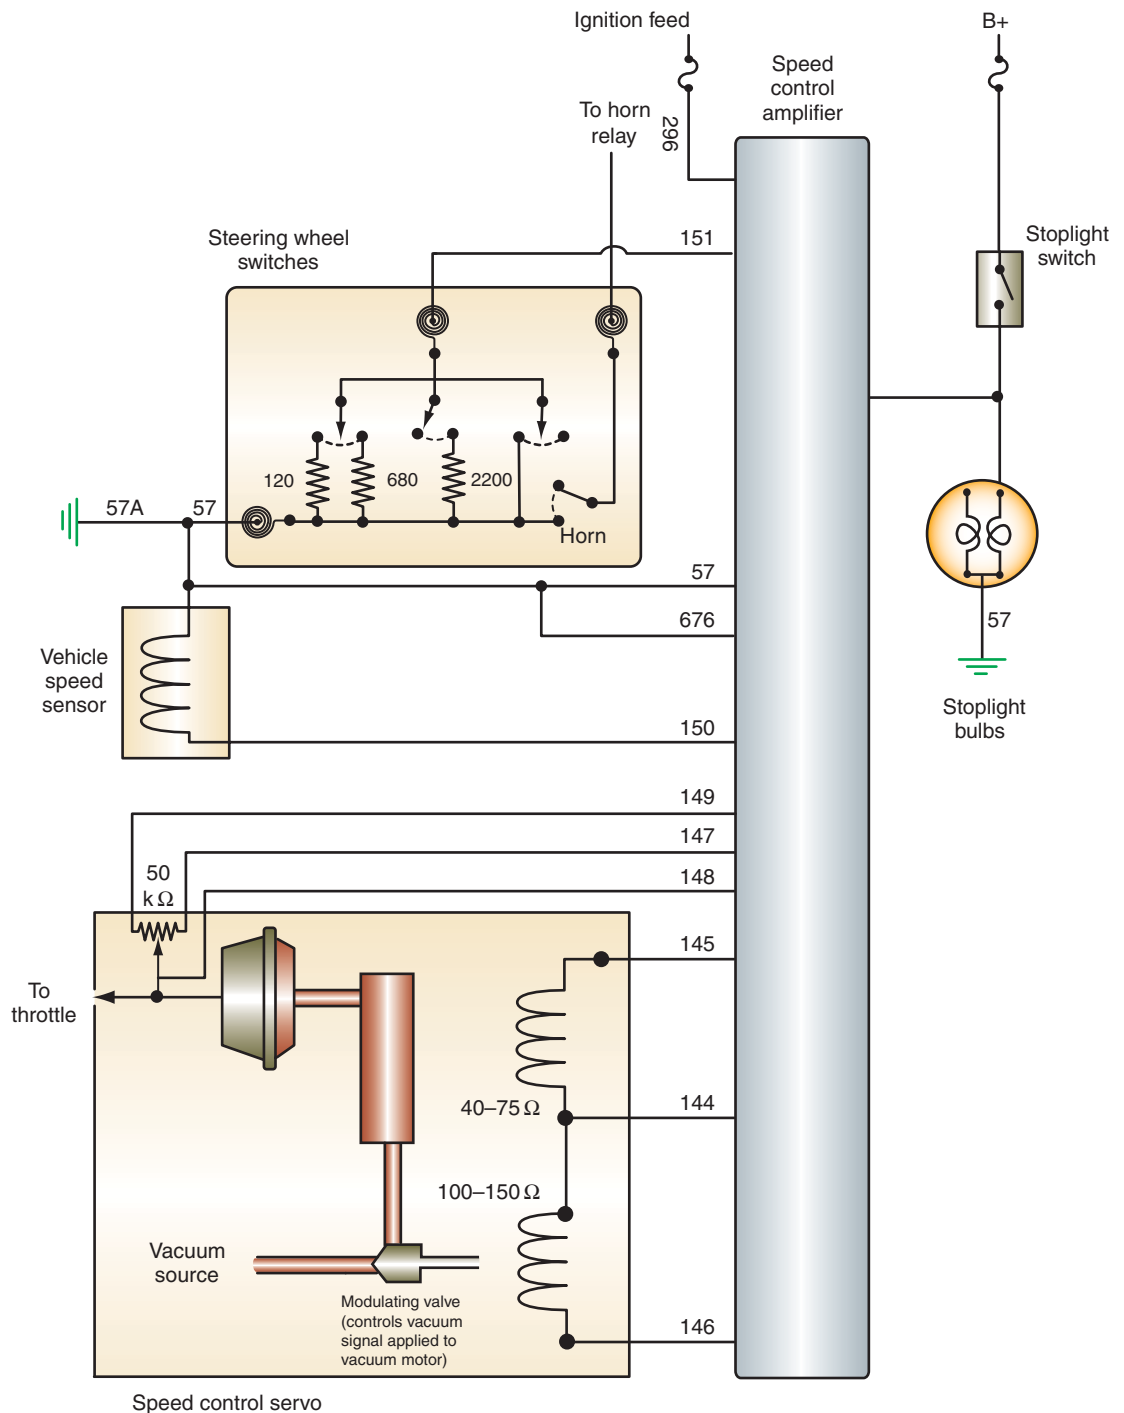

FIGURE 14-38 Speed control electrical schematic.
3. Use the service manual's switch continuity chart and system schematic to test switch operation. Turn the steering wheel through its full range while testing the switches. For example, using the Ford system shown (Figure 14-38), this test would be conducted by disconnecting the connector at the amplifier and connecting an ohmmeter between the terminal for circuit 151 and ground (with the ignition switch off). While rotating the steering wheel throughout its full range, make the following checks:
Servo Assembly. Actuator tests vary depending on design. Some manufacturers use vacuum servos and others use stepper motors. Be sure to follow the service manual procedures for the vehicle you are diagnosing. The servo controls the position of the throttle by receiving a controlled amount of vacuum. The following servo assembly test is a common test for Ford's cruise control system. Use the schematic (Figure 14-38) to perform the following test.